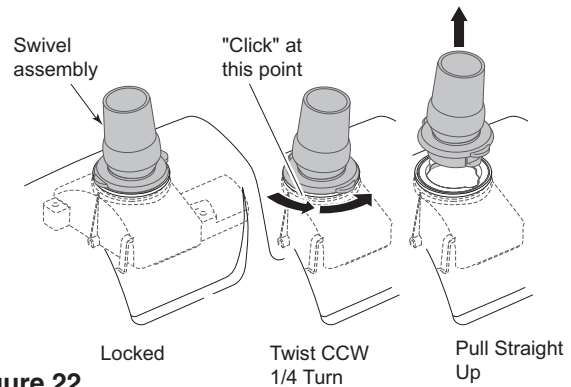

Figure 22
1. Remove swivel assembly (**Figure 22**) from the top of the Dorado™ Automatic Pool Cleaner by turning it 1/4-turn counterclockwise and pulling straight up on it.